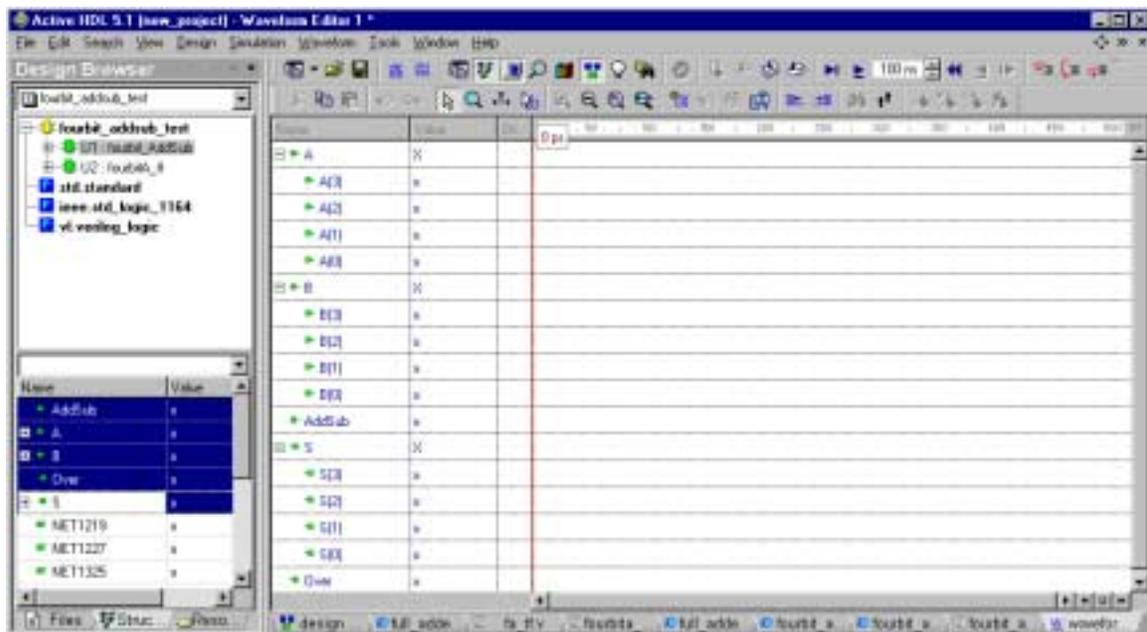

Figure 11
6. Use the same methods you used in Tutorial #1 to add the inputs and outputs from the 4-bit adder/subtractor component. Notice that if you add a multi-bit signal all of its bits will be added to the waveform, or you can add specific bits by expanding the multi-bit signal’s list and add only the desired bit. Your waveform should look something like Figure 11.